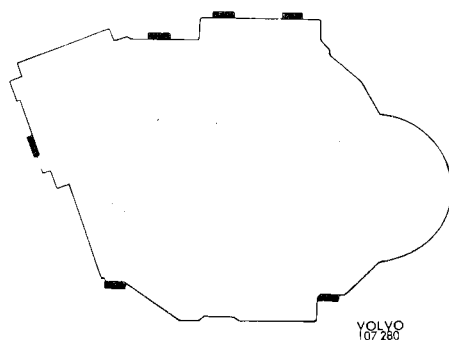

Fig. 8-87. Placing clamps for middle connector
9. Fit the left half. Concerning the location of the clamps, see Fig. 8-87.